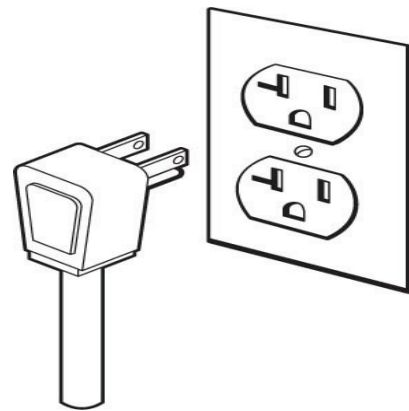
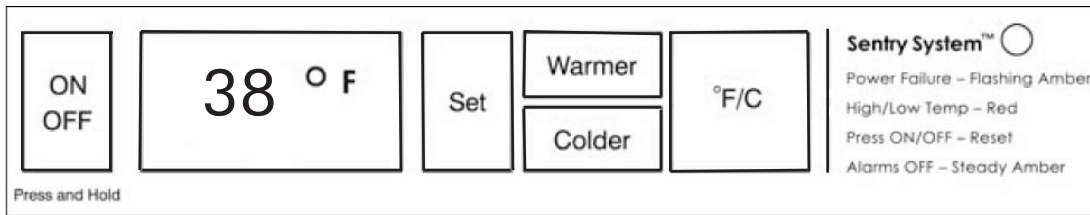

Figure 1
Figure 2
This product is factory equipped with a power supply cord that has a three-pronged, grounded plug. It must be plugged into a mating grounding type receptacle in accordance with the National Electrical Code and applicable local codes and ordinances (see Figure 1). If the circuit does not have a grounding type receptacle, it is the responsibility and obligation of the customer to exchange the existing receptacle in accordance with the National Electrical Code and applicable local codes and ordinances. The third ground prong should not, under any circumstances, be cut or removed (see Figure 2). All U.L. listed refrigerated products are equipped with this type of plug.
If your appliance’s control has been shut-off (i.e., unit plugged in, interior lights operate, display blank), unit must be turned on. To turn on your appliance, push and hold for five (5) seconds, the “ON/OFF” button located on the display panel (see Figure 2).